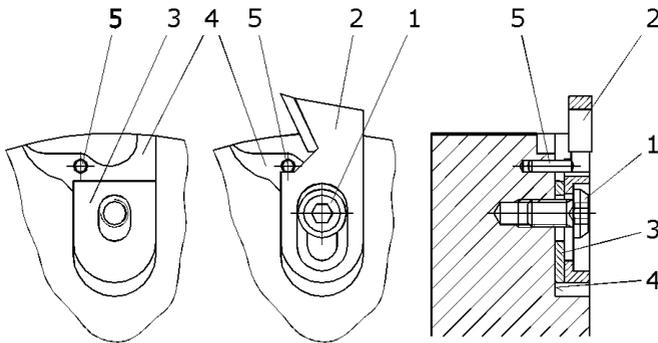

Fig.7
(See Fig. 7)
2. Loosen the screw (1) with the Allen key and completely remove it from the knife seat.
3. Remove the grooving knife (2) and -if necessary- the shim from the knife seat (3).
4. Clean the knife seat (4) and all the corresponding components that go with it. Be sure all clamping surfaces are free from dirt, oil, grease and water.
6. Insert precisely the new grooving knife (see Fig. 7).
7. Put back the correct screw and press the grooving knife properly onto the positioning pin (5).